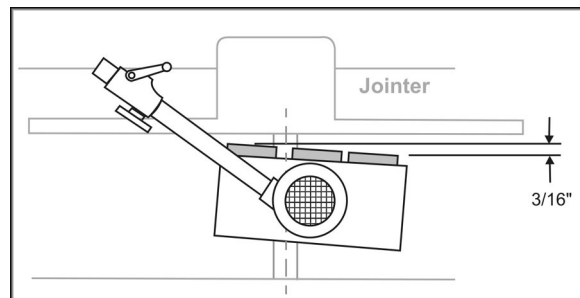

Figure 21
- Mount the 3-roller stock feeder on a jointer so that the cutterhead is between the outfeed roller and the center roller (Figure 21). The 4-roller stock feeder can be positioned so that the cutterhead is between the center rollers.
3. Rotate the Stock Feeder so that the direction of feed is angled slightly toward the fence by approximately 3/16" (5mm); that is, the outfeed roller should be slightly closer to the fence than the infeed roller. See Figures 21 and 22.